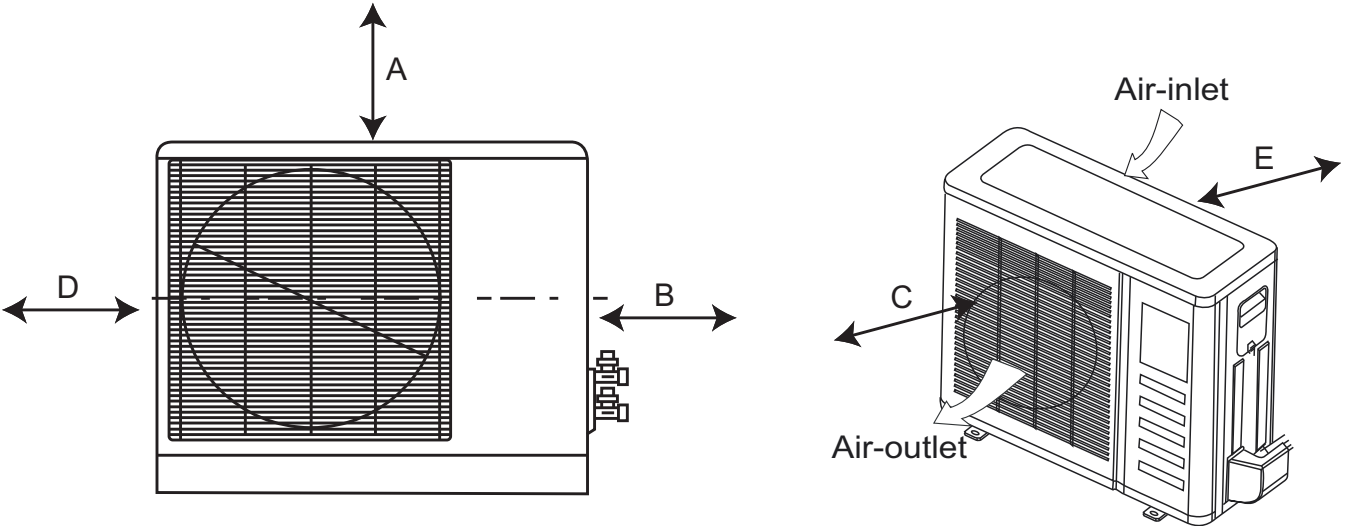

Fig. 14 – Clearances Outdoor
- A location which provides appropriate clearances (see Fig. 14).
- A location with appropriate clearances as outlined in Fig. 14.